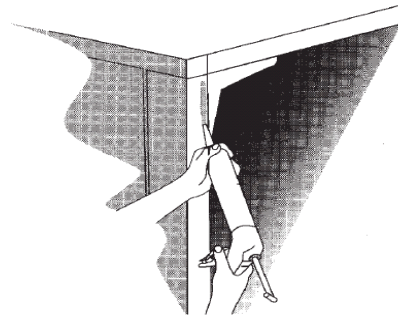

Figure 86: Sealing the frontal joints
1. The sealing agent (Sikaflex) has to be applied instead of the sealing strip across the whole flange of the AHU, 5 mm from the inner edge (see **Figure 86**). Immediately thereafter, the relevant delivery sections have to be joined together and then bolted.